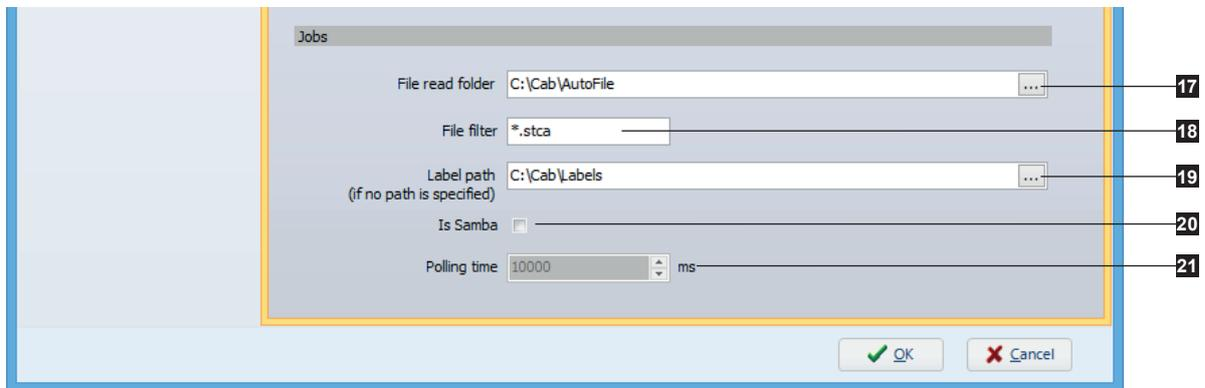

Figure 36 Jobs section
- ▶ Select the desired language(s) (1) in the list (▷ Figure 36).
- ▶ Select the type of formatting to apply (2): bold, italic, underline, lowercase conversion, uppercase conversion, font color.
- ▶ Validate with the **OK** button (3).